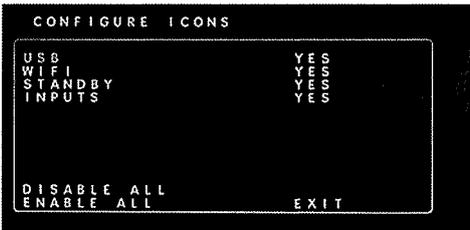

Figure 40.
2. Navigate to **CONFIGURE ICONS** and press **Select** to select it. The CONFIGURE ICONS screen opens (Figure 40). Each icon listed can be configured to YES (display) or NO (do not display).